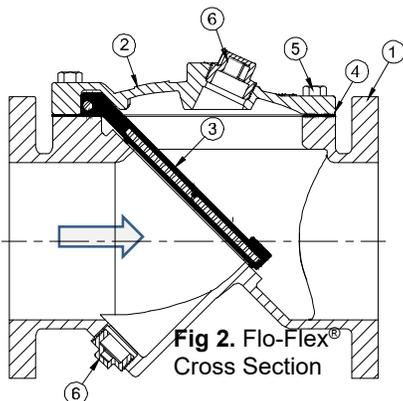

Fig 2. Flo-Flex®
The Flomatic® Flo-Flex® Swing Check Valve is constructed of rugged Ductile Iron with a rubber encapsulated valve disc. The rubber coated valve disc is the only moving part assuring long life with minimal maintenance. The general details of construction are illustrated in Fig. 2. The body (1) flanged for connection to the pipeline with an access cover (2), disc (3) is retained by the cover.
<ol style="list-style-type: none"> Relieve pressure and drain the pipeline. Refer to Figure 2 on page 2. Remove the cover bolts (5) on the top cover. Pry cover (2) loose and lift off valve body. 12" and larger valves have tapped holes in cover for lifting eyes. Remove disc (3) and inspect for cracks, tears or damage in rubber sealing surface. Clean and inspect parts. Replace worn parts as necessary and lubricate parts with FDA/NSF grease such as "Super Lube". 	<p>All parts must be cleaned. Gasket surfaces should be cleaned with a stiff wire brush in the direction of the serrations or machine marks. Worn parts, gaskets and seals should be replaced during reassembly.</p> <ol style="list-style-type: none"> Lay disc (3) over seat with beaded seating surface directed down. Lay cover gasket (4) and cover (2) over bolt holes and disc hinge. Insert lubricated bolts (5) noting that the bolts in the hinge area are longer than the other cover bolts. Cover bolts should be tightened to the specifications shown in Table 2 (next page) during re-assembly.